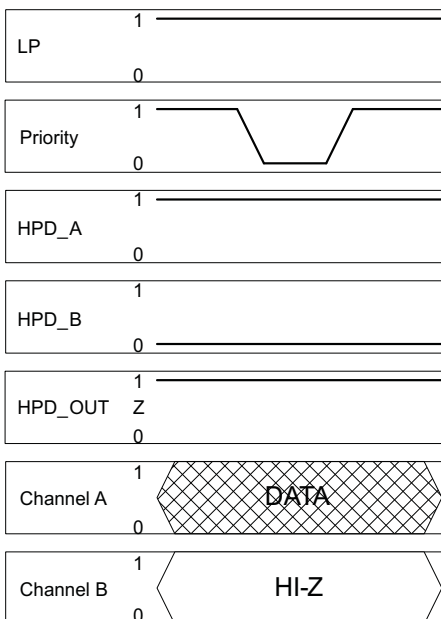

Figure 45.
- Case one: In this case only one HPD input is HIGH. A port whose HPD input is LOW cannot be selected. In this case, the state of the priority pin has no effect on the switch (see Figure 45).